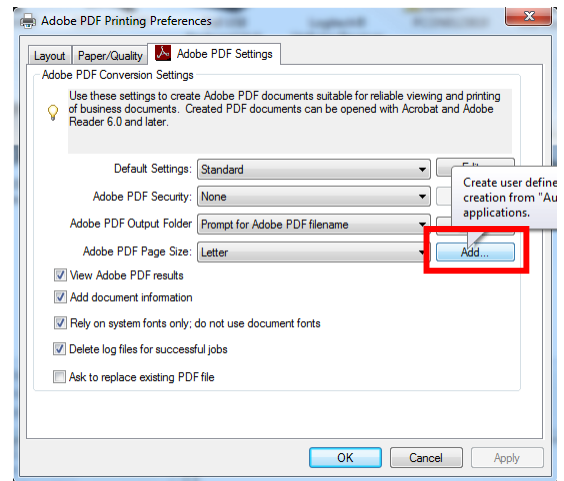

Figure 9
- Select the "Add" button for Adobe PDF Page Size (Figure 9).